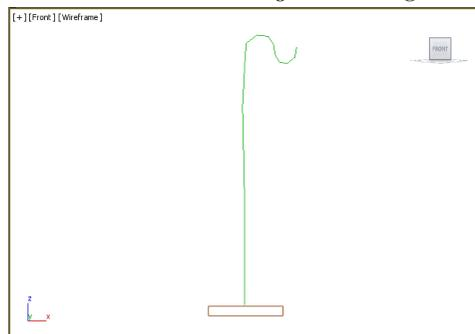

Figure 5-25 The line created
3. Click at the center of the top edge of *base* and create a curved shape, as shown in Figure 5-25. Enter **pillar** in the **Name and Color** rollout. Next, right-click to exit the **Line** tool.
To get the perfect shape shown in Figure 5-25, you need to follow the steps given next.